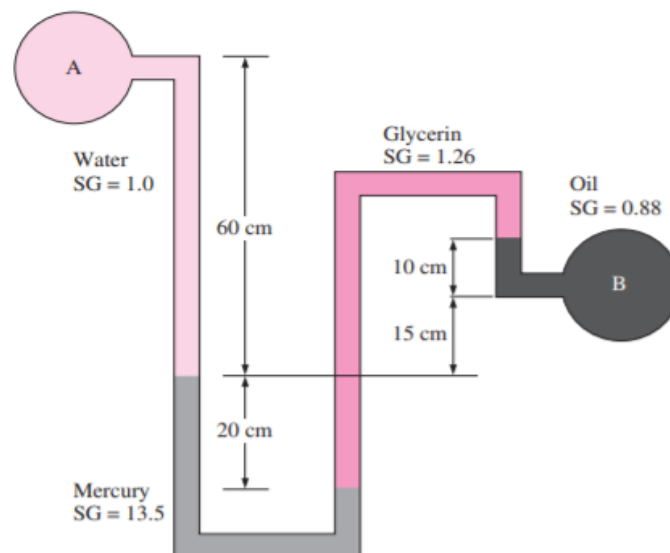

Figure 1 – A double-fluid manometer
- (3). (a). The pressure difference between an oil pipe and water pipe is measured by a double-fluid manometer, as shown in Figure 1. For the given fluid heights and specific gravities, calculate the pressure difference $\Delta P = P_B - P_A$.